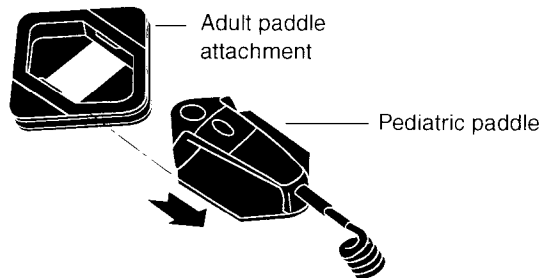

Figure 5-9 Accessing a Pediatric Paddle
- 2 Slide the paddle handle back until you hear a click (see Figure 5-9).